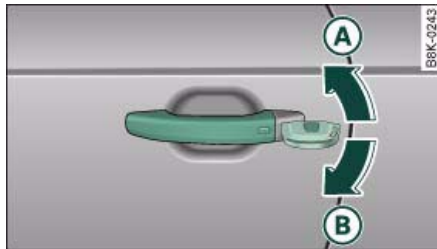

Fig. 38 Lock on driver's door
- Turn the key to position **A** ⇒ fig. 38 to unlock the vehicle.